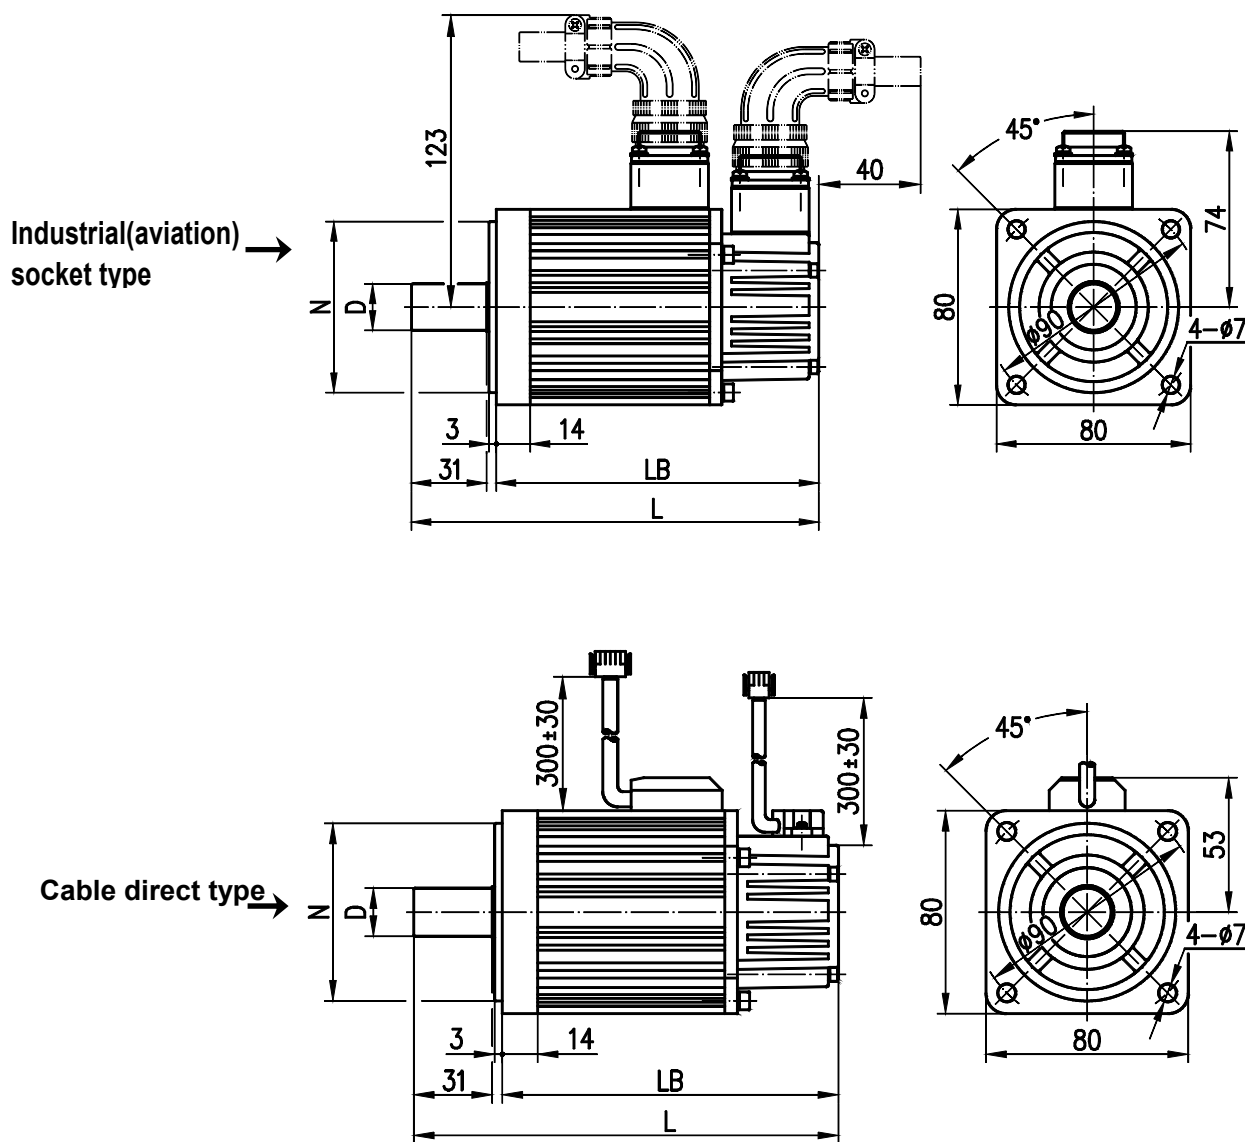

Fig. 1
5.1 Refer to figure 1 and list 6 about **80SJT** serial motor overall installation dimension and connection mode.